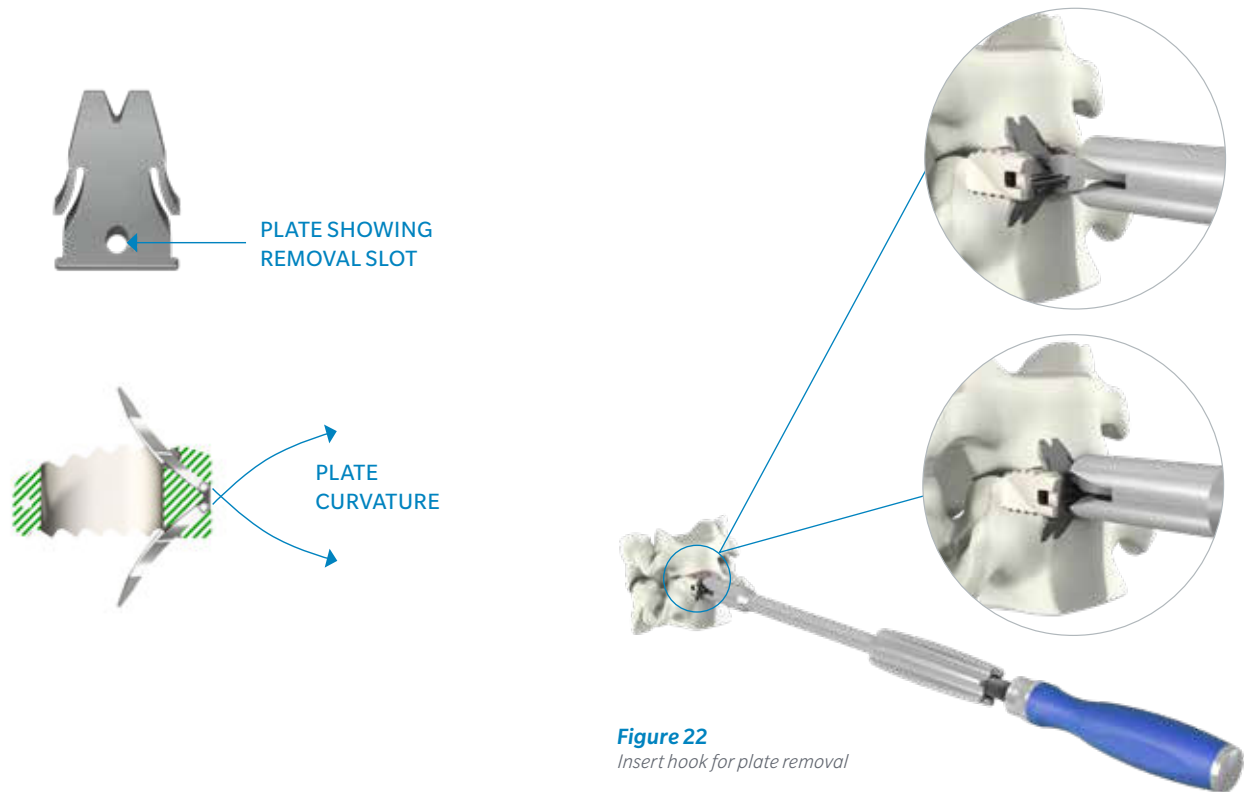

Figure 22
- Insert the hook of the plate removal instrument in the plate hole (Figure 22).